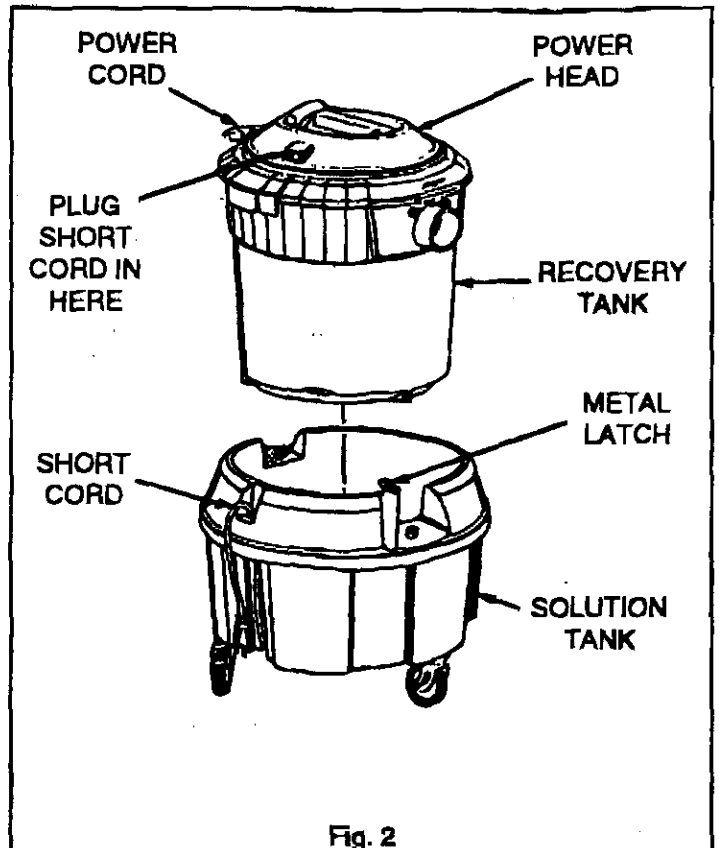

Fig. 2
See Figure 2
7. Unplug Short Power Cord from Recovery Tank Power Head. (See Figure 2, page 4)